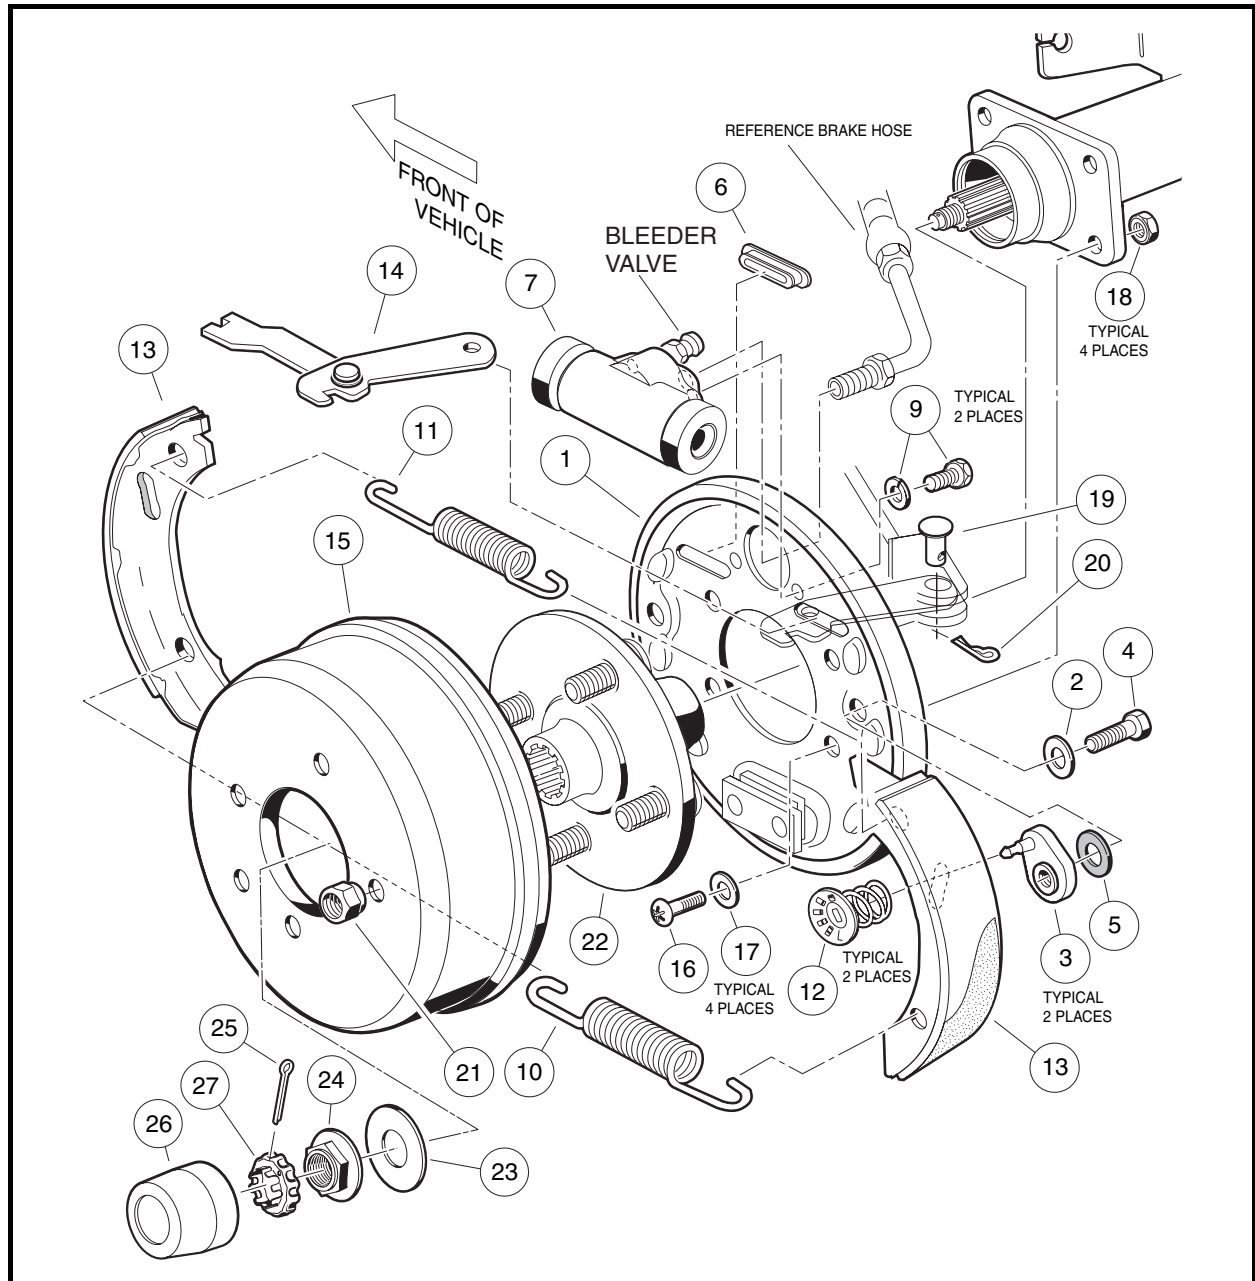

Figure 6-19 Rear Hydraulic Brake Cluster Assembly
1. Place the brake drum (15) onto the wheel bolt flange and brake cluster (**Figure 6-19, Page 6-21**). See following **NOTE**.
- Do not apply more than 65 in-lb (7.3 N·m) of torque to any of the adjuster bolts. Overtightening the adjuster bolts could result in damage to the brake cluster components or the separation of the bolt (4) from the adjuster (3) (**Figure 6-1, Page 6-2** or **Figure 6-19, Page 6-21**).
5. Install the wheel and finger-tighten the lug nuts (21) (**Figure 6-19, Page 6-21**).
8. Use a Torx #T-40 driver and remove the four Torx-head bolts (16), washers (17), and locknuts (18) that secure the brake cluster back plate to the axle tube flange (**Figure 6-19, Page 6-21**).
1. Install the back plate to the axle tube flange with four new Torx-head bolts (16), washers (17), and lock-nuts (18). Tighten all four bolts to 76 in-lb (8.6 N·m) (**Figure 6-19, Page 6-21**). See following **CAUTION**.
5. Remove two bolts (9) and lockwashers that secure the wheel cylinder to the mounting plate (1), and remove the wheel cylinder (7) (**Figure 6-19, Page 6-21**).
1. Install wheel cylinder (7) with two new bolts (9) and lockwashers and tighten the two bolts to 120 in-lb (13 N·m) (**Figure 6-19, Page 6-21**).
4. Grip adjuster arm (3) with a pair of locking pliers and use a Torx #T-27 driver, or 7/16-inch socket to remove the bolt (4), flat washer (2), and Bellville washer (5) from the back plate (1) (**Figure 6-19, Page 6-21**). Remove remaining adjuster assembly and discard all adjuster components (3, 4, 2, and 5) for both assemblies.
1. Install bolt (4) and flat washer (2) to the back plate (1) (**Figure 6-19, Page 6-21**).
2. Apply a light coat of grease to the Bellville washer (5) and install the washer onto the bolt (4) and against the inside surface of the back plate (1).
3. Carefully apply Loctite 222 to the threaded portion of bolt (4) and attach the adjuster arm (3). Position adjuster so that the brake mounting post is to the top of the back plate.
4. Grip adjuster arm (3) with a pair of locking pliers and tighten the bolt (4) to 115 in-lb (13 N-m).